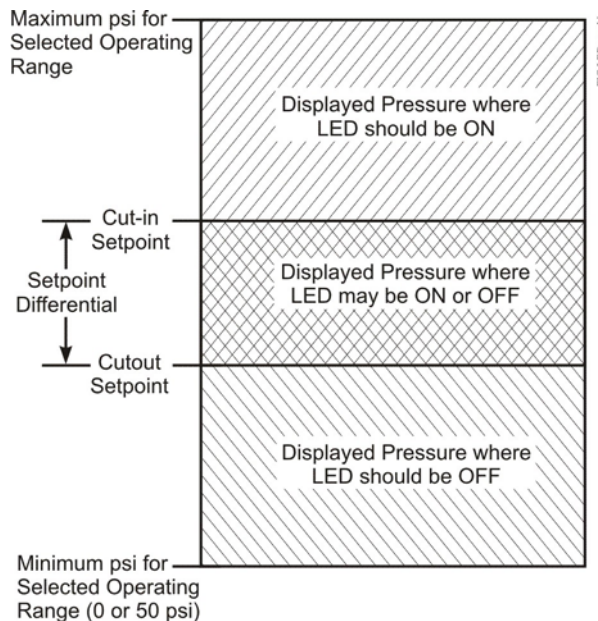
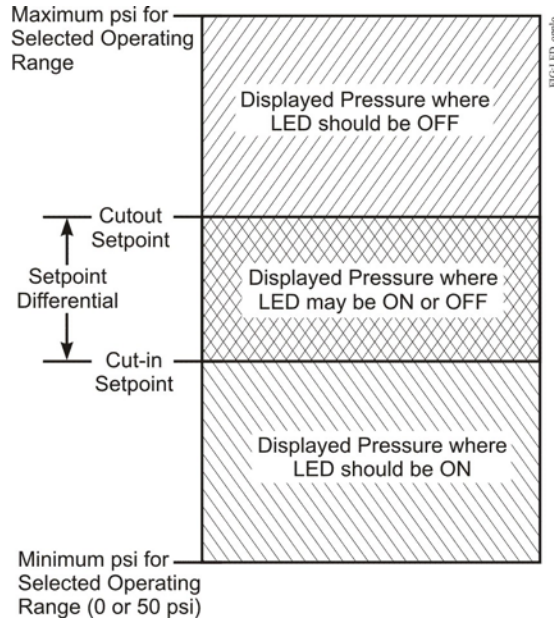

Figure 14: LED Status for Open-High Controls
Figure 15: LED Status for Open-low Controls
Note: The following procedures change the cut-in and cutout setpoints and shift the setpoint differential so the displayed pressure is not within the Setpoint Differential range. See Figure 14 and Figure 15.
- (See Figure 14.) **If the control is operating as an open-high control and:**
- This procedure, in effect, moves the crosshatched areas shown on the graphs in Figure 14 and Figure 15 above or below the displayed pressure, and forces the LED to go On or Off (and output relay to close or open) and verifies the control is functioning properly. (See Figure 15.) **If the control is operating as an open-low control and:**